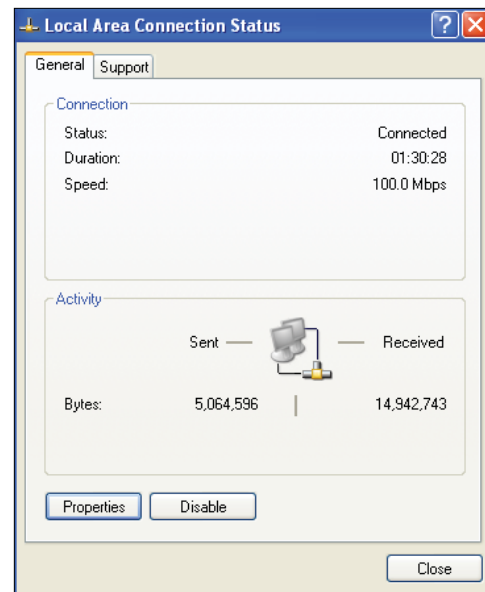

Figure 31: Local Area Connection Status Window
3. In the *Network Connections Window*, double-click the **Local Area Connections** entry. The *Local Area Connection Status Window* will appear (**Figure 31**).